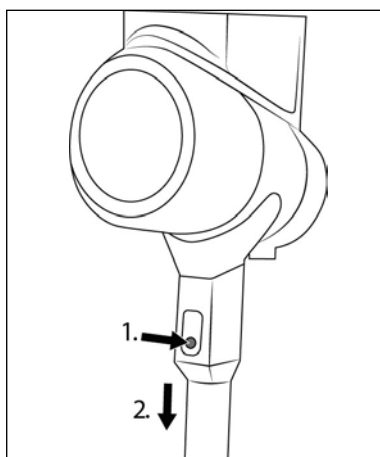

Fig. 10
- ◆ To remove the suction pipe 23 from the appliance, hold down the suction pipe release button 24 and pull the suction pipe 23 off the suction opening of the appliance (see Fig. 10).